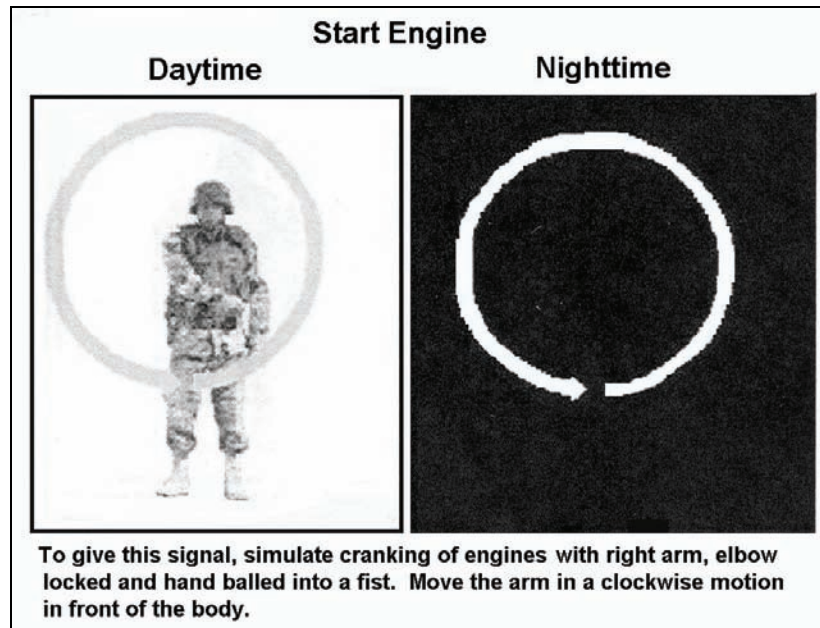
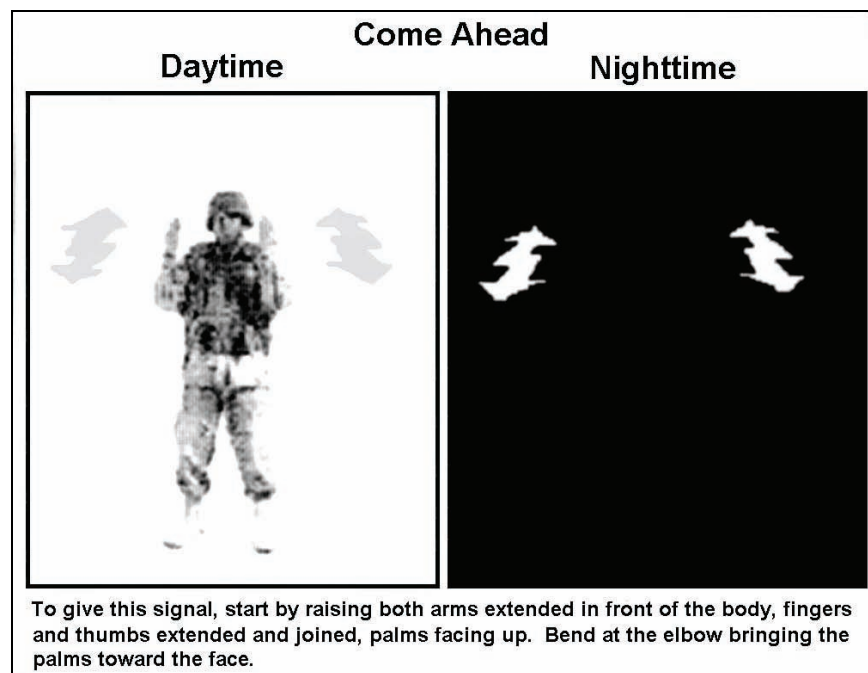

Figure 3-2. Start Engines
Figure 3-19. Come Ahead
3. Employ visual hand signals to guide vehicle movement (see Figure 3-2 through Figure 3-19).